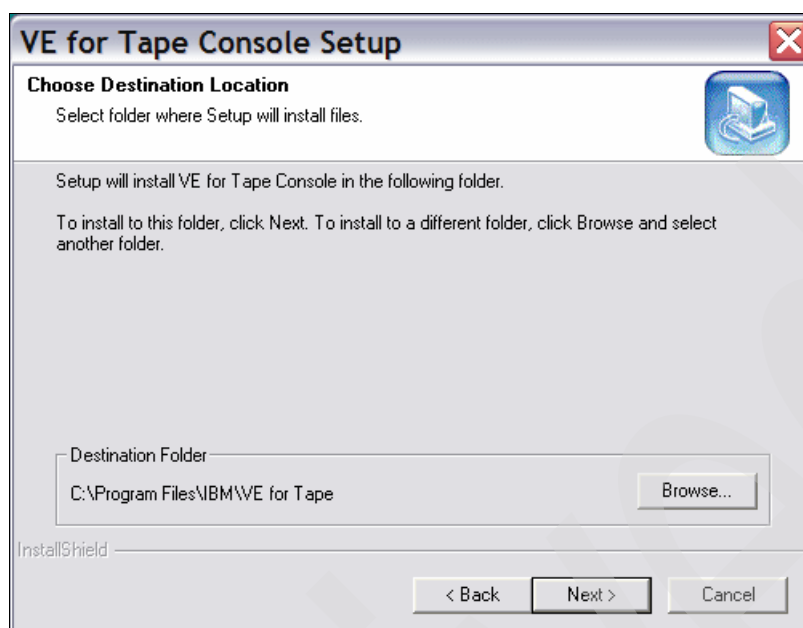

Figure 5-19 IBM Total Storage Virtualization Engine TS7510 Console: Choose destination
4. Accept or change the installation path. Click **Next**, as shown in Figure 5-19.